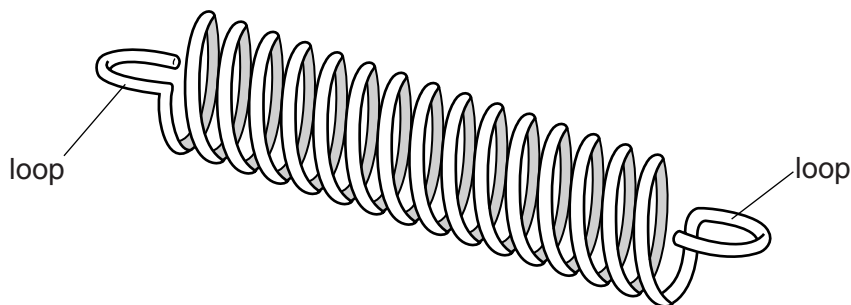

Fig. 2.2
- (ii) Slide the spring off the rod and then twist the ends to give a loop at each end, as shown in Fig. 2.2.